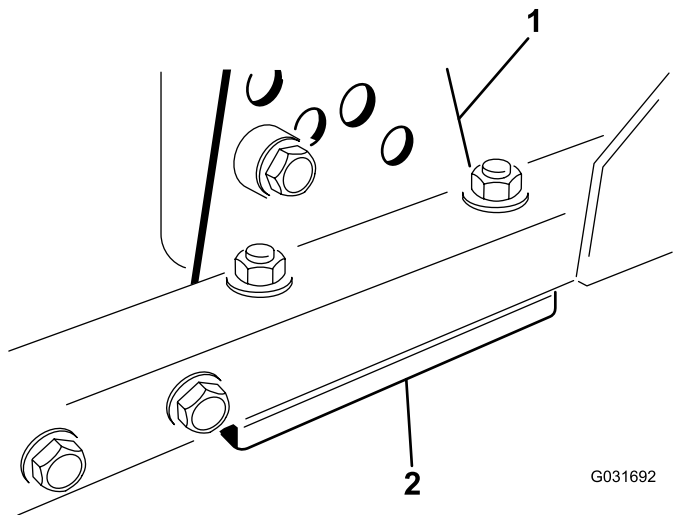

Figure 65
- Remove the height-of-cut bracket (front, left, or right) from the deck frame (Figure 65).
- Adjust 1.5 mm (0.060 inch) shims and/or 0.7 mm (0.030 inch) shim between the deck frame and bracket to achieve the desired height setting (Figure 65).